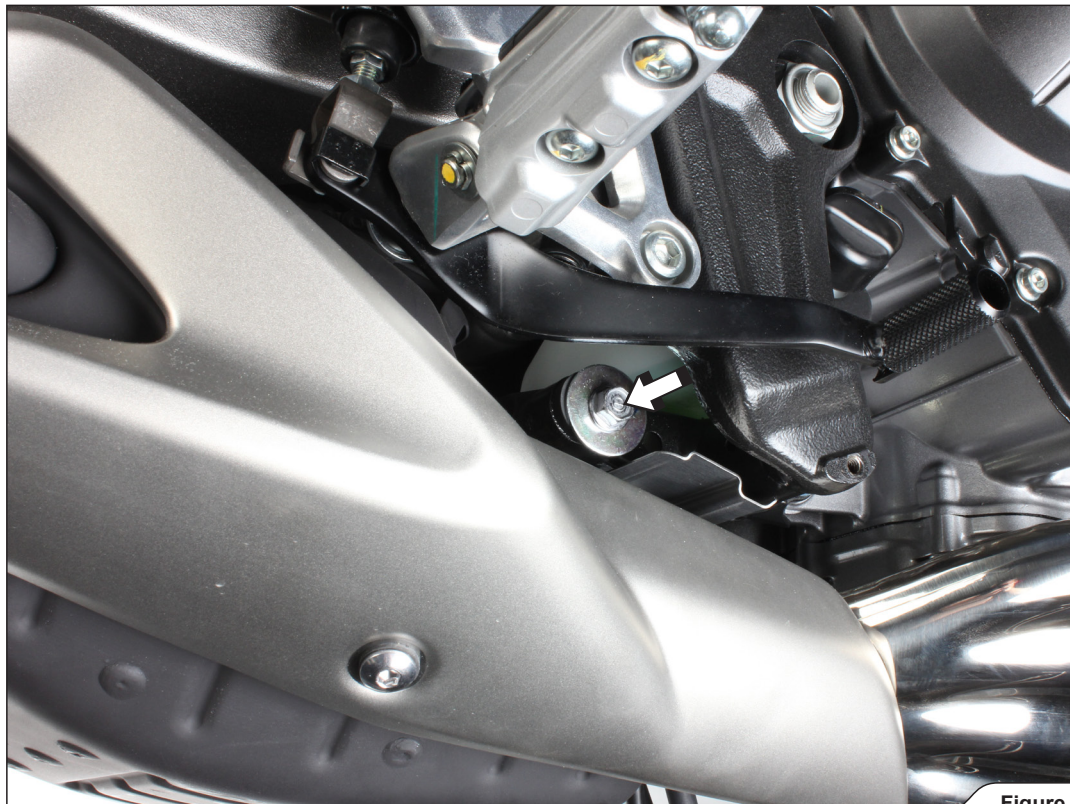

Figure 9
6. Unscrew the market bolt on both sides of the motorcycle and carefully remove the stock exhaust off the motorcycle (Figure 9).